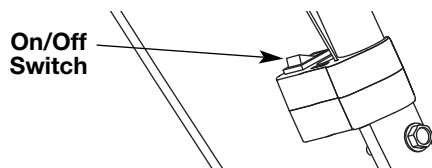

Fig. 11
NOTE: There is no need to turn the unit on. The On/Off Stop Control is in the ON (I) position at all times (Fig. 11).
2. Press and hold On/Off Stop Control in the OFF (O) position until engine comes to a complete stop (Fig. 11).